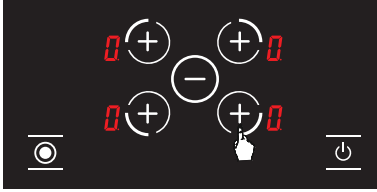

Figure 20
2. Press the button **+** for selecting the front burner on the right again. (See Fig. 20.)